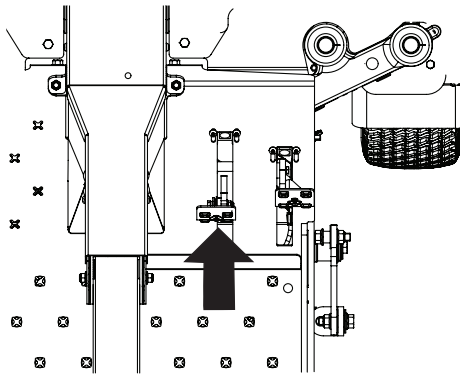

Figure 3-7
1. Slowly push the forward drive pedal forward. The tractor will start to move forward. See Figure 3-7.